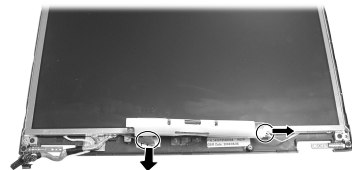

Figure 2-32 Remove the inverter board
4. To remove the inverter board on the lower part of the LCD housing, disconnect two cables. (Figure 2-32)